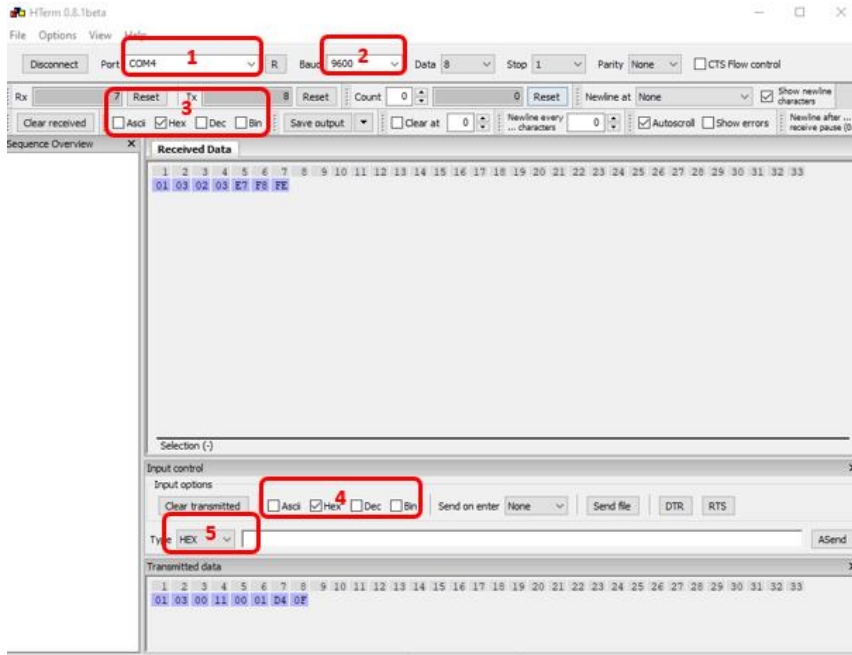

Fig.6 HTerm Parameter Interface
6) Open the terminal program HTerm and set the parameters as the following Fig. 6.